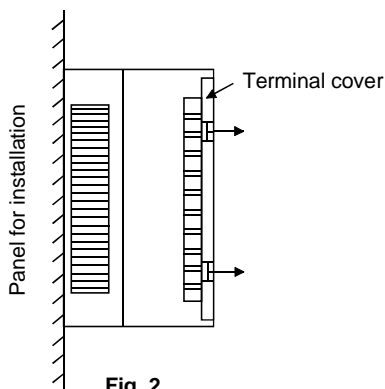

Fig. 2
- (1) Remove the terminal cover. The terminal cover comes off by pulling the left-hand side recesses toward you as shown in Fig. 2.